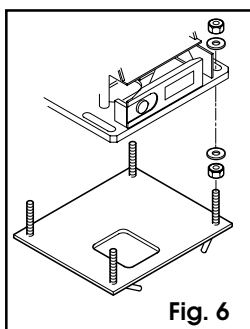

Fig. 6
6) Fasten the operator to the base plate by means of the screws and washers supplied, as shown in fig. 6.